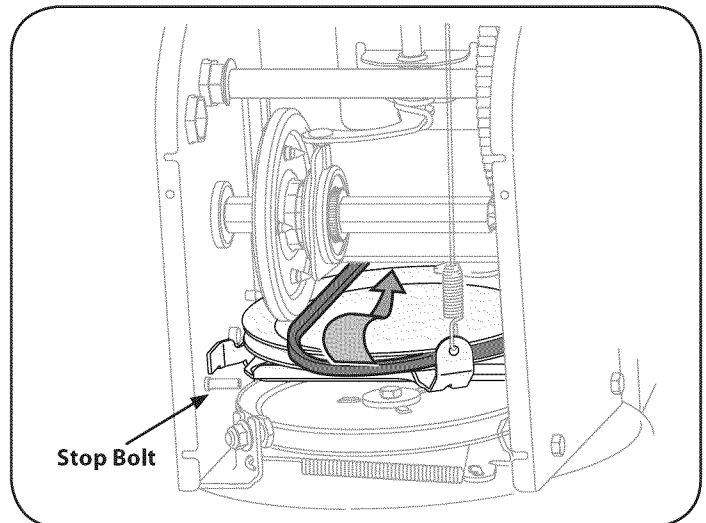

Figure 33
6. Back out the stop bolt to increase the clearance between the friction wheel disc and friction wheel. See Figure 33.
7. Slip the drive belt off the friction wheel disc and then between friction wheel and friction wheel disc. See Figure 33.